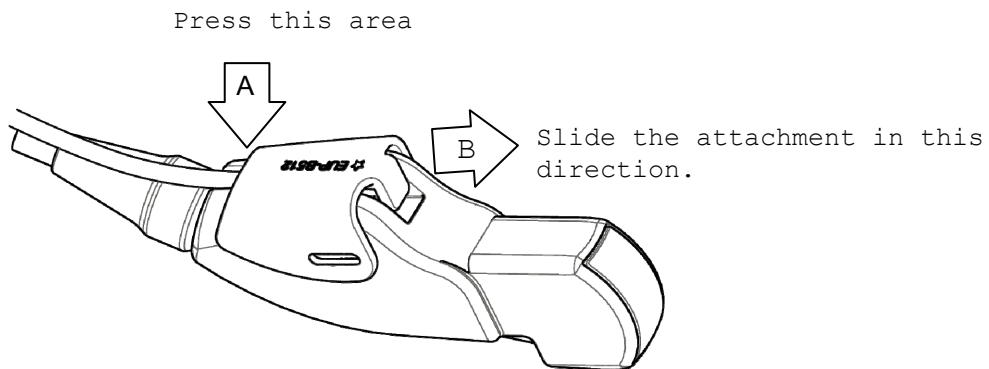

Fig.9 How to release the attachment from the probe
- a) Press the area of the Magnetic sensor attachment shown with the arrow toward the direction A, and then slide out the attachment toward the direction B as shown in Fig.9 and release it from the probe.